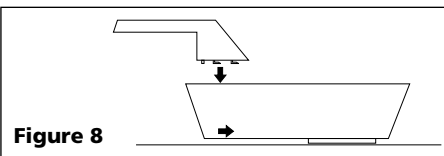

Figure 8
4. To attach the handle, place shield on a flat surface and press handle into place (See Figure 8). *Not necessary for models WS0900 or WS090001.